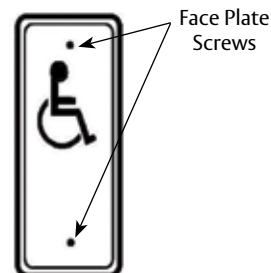

Figure 31
1. Remove face plate to access mounting screws. (Figure 31)